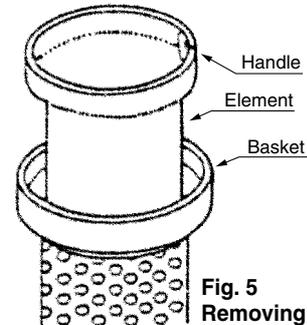

Fig. 5 Removing an element
1. A handle made of cloth is attached to the element so that it can be pulled out of the basket by using your fingers or a stick. Pull the handle towards the center. (Refer to Fig. 5)